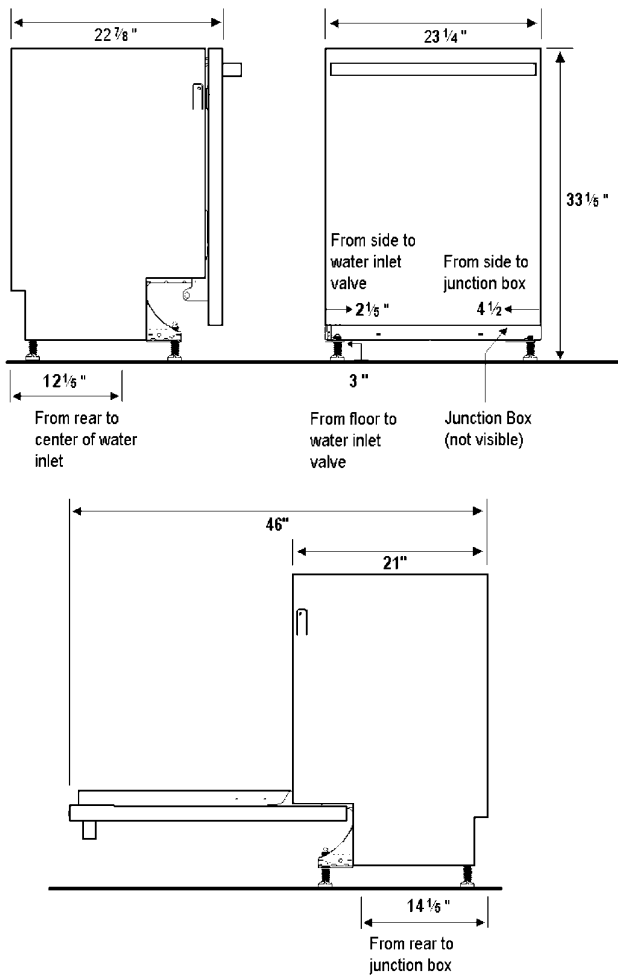

FIG 3
- 1 Review dimensions in **Figure 3** to locate the dishwasher's drain, water and electrical connections.
- 2 Note the location of the electrical supply and the dishwasher's electrical junction box on the right hand underside of the unit. **See Figure 3.**
- 1 Determine where you connect to the hot water supply. Review **Figure 3**, and note the location of the water inlet valve.